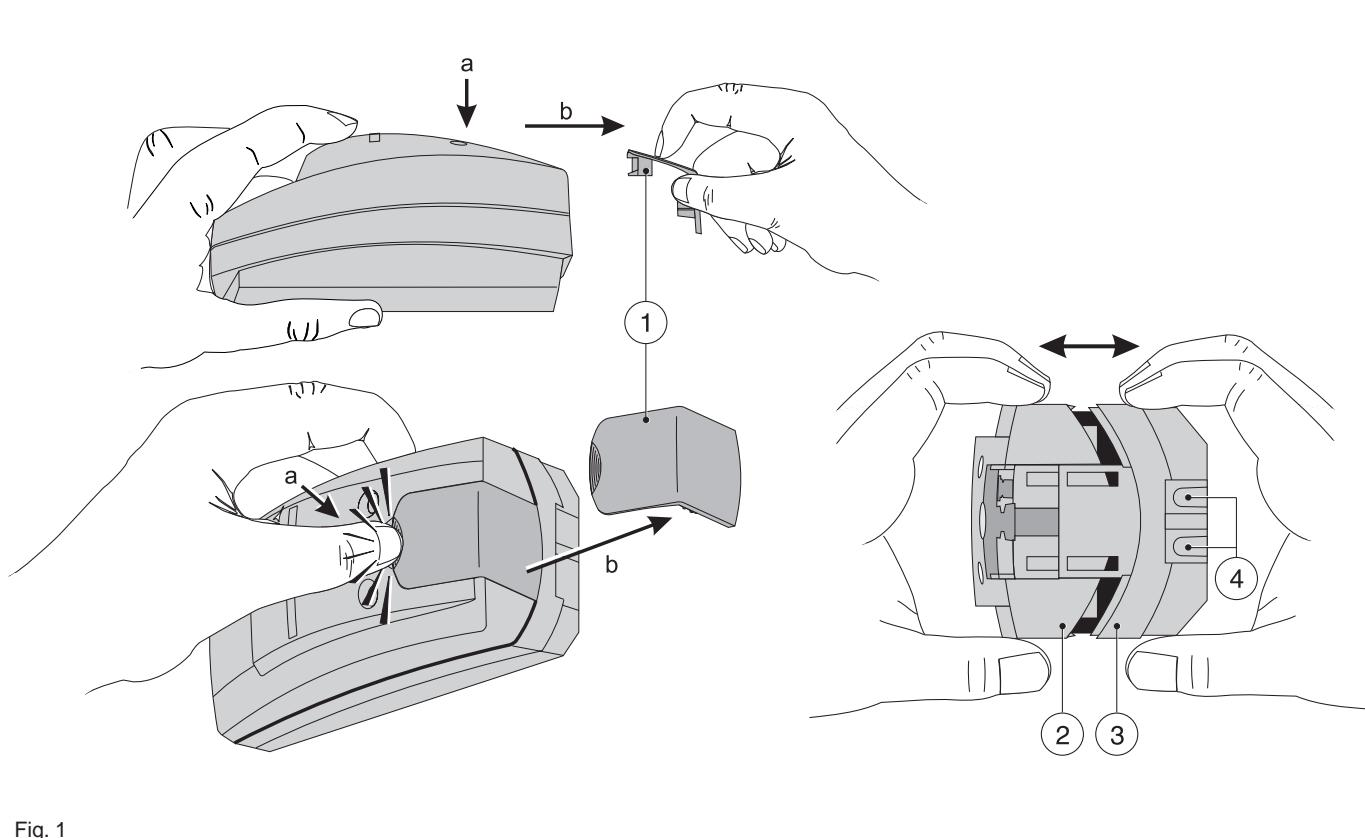

Fig. 1
1. Lift off the cover plate ① as shown (a & b) (Fig. 1).
2. Open the detector, ② & ③ Fig. 1).